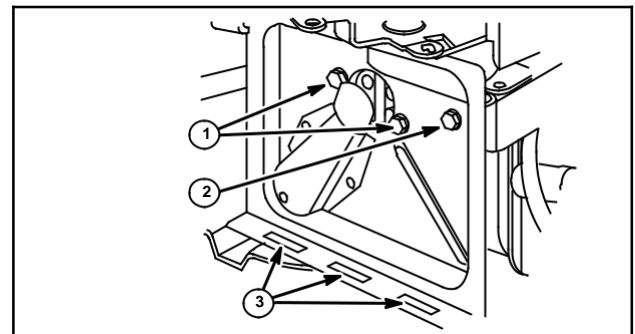

Fig. 118
1. Install carburetor back plate with two sealant coated screws (1) into carburetor. Do not tighten at this time.
2. Then install third screw (2) but do not tighten.
4. Torque remaining screw to 40 in. lbs. (5 Nm), Fig. 118.